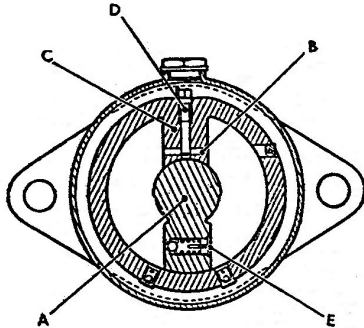

Fig 4 Section view of typical Vane Type Damper
The first Hydraulic Units were of the Vane Type, Fig. 4, in which a Vane or Paddle (A) on the rotor shaft, forced the hydraulic fluid through a small orifice (B) in a reacting block (C). This orifice could be restricted by an adjusting screw (D), and spring loaded relief valves (E) prevented the internal resistance building up beyond a pre-determined figure, at violent movement of the axle.